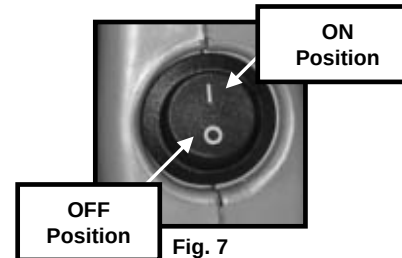

Fig. 7
- The On/Off power switch has two positions. (Fig. 7)